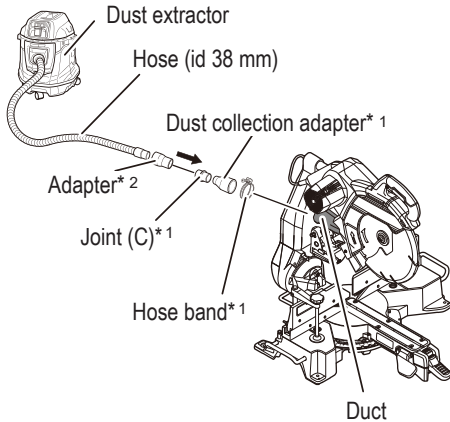

Fig. 47
13. Connecting the dust extractor (Sold separately) (Fig. 47)
Connection is done by pressing in the direction of the arrow. (Fig. 47)